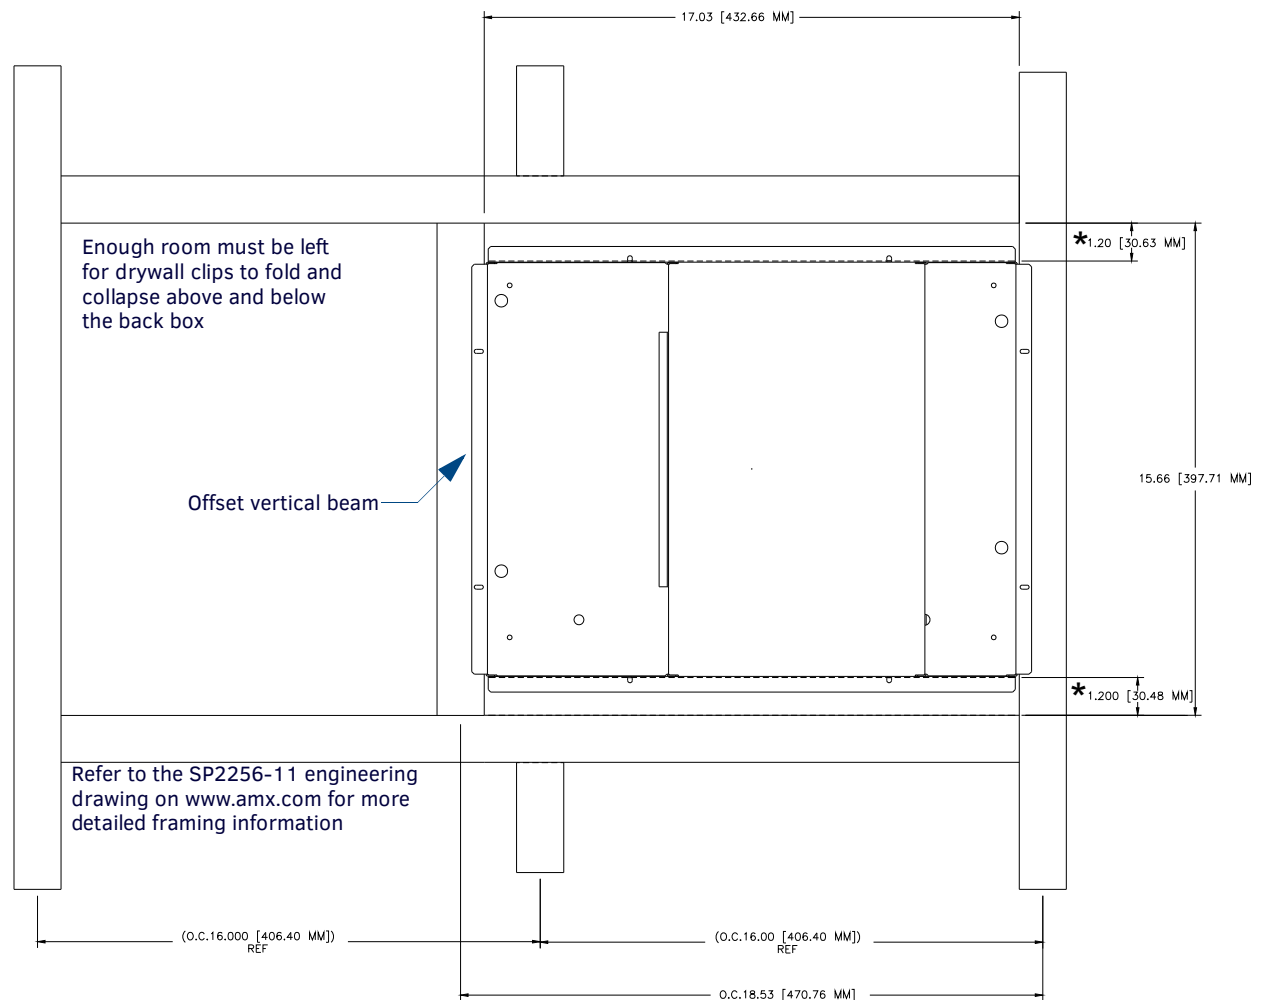

FIG. 57 NXD-1700VG framing installation overview
- **Pre-wall** framing is done prior to the drywall installation (local framing instructions vary based on location and building codes). FIG. 57 shows how to mount and position the main NXD unit into a pre-wall environment (for use with drywall clips).